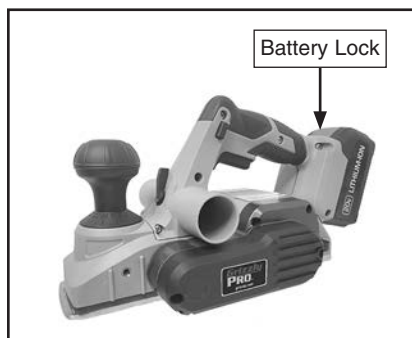

Figure 3. Location of battery lock.
1. Press battery lock (see **Figure 3**) and remove battery from planer.